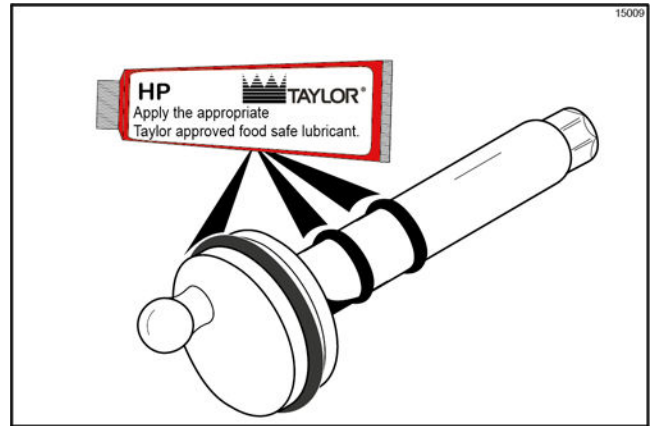

Figure 6-46
13. Slide the large black O-ring and the two smaller black O-rings into the grooves on the driveshaft. Thoroughly lubricate the O-rings and shaft. **Do not** lubricate the hex end of the shaft. (See Figure 6-46.)